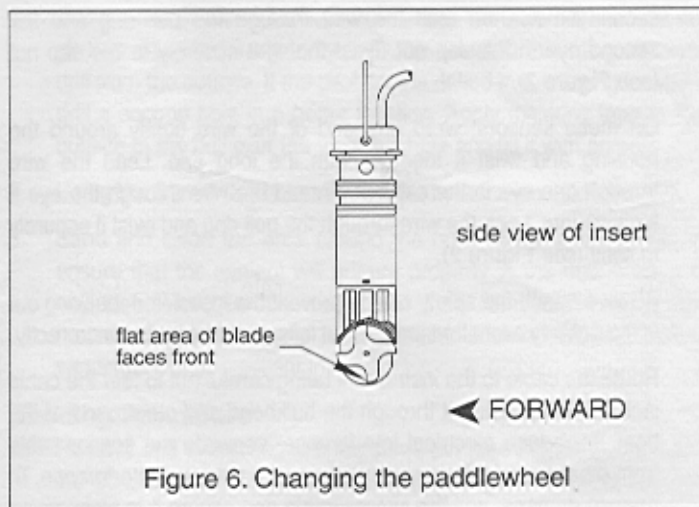

Figure 6. Changing the paddlewheel
1. Push out the paddlewheel shaft about 5mm (1/4") using the new shaft. With pliers, remove the old shaft (see **Figure 6**).